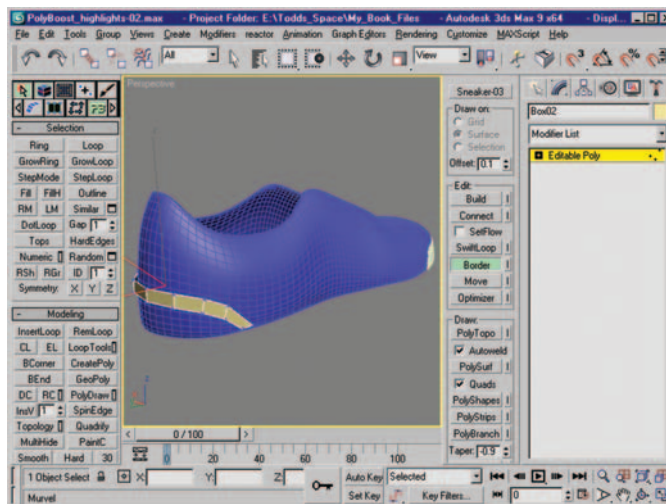

Figure 12.32 New polygons created around to other side of shoe.
7. With the Border tool still active, continue creating evenly spaced polygons around to the other side of the sneaker mesh. Figure 12.32 shows the resulting mesh with nine total polygons in the row.